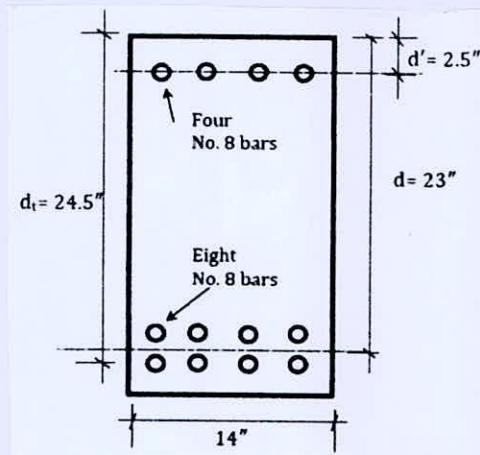

Figure 7
8. (a) A rectangular RC beam as shown in Figure 7 measures 14 in. wide and has an effective depth of 23 in. Tension steel consists of eight No. 8 bars in two layers ($d = 23$ in., $d_t = 24.5$ in.) and compression steel consists of four No. 8 bars is located 2.5 in. from the compression face. What is the design moment capacity of the beam according to ACI/BNBC code?